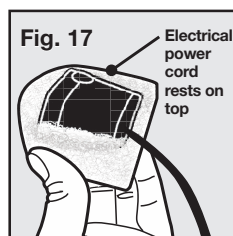
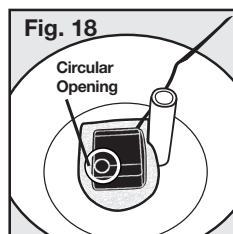

Fig. 17
Fig. 18
1. Place the foam filter around the pump (**Fig. 17**). Take the bowl and place pump inside the square indentation. With the bowl positioned so the raised post is at the top right corner of the square, make sure the pump is positioned so that the pump outflow is positioned in the bottom left corner of the square (**Fig. 18**).